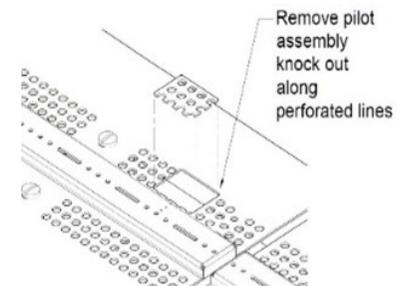

FIGURE 50
- 10) Before replacing the removed burner top from **step 4**, locate the perforated rectangular section in the pan. Gently remove this section along the perforations using a screwdriver or pliers. **(Figure 50)**